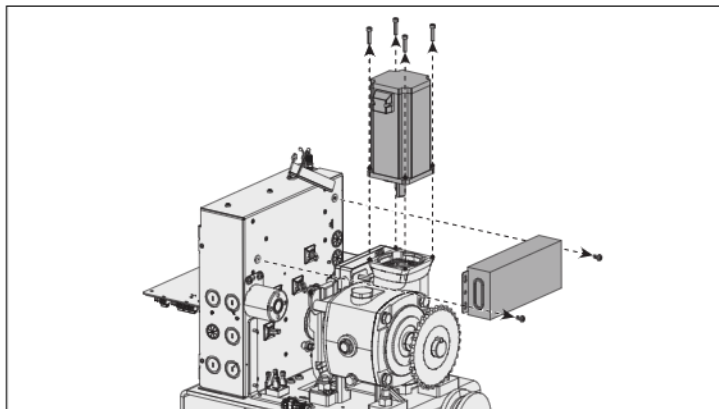

Fig. 3 - Removing the Motor and Motor Drive (Model HDSL24UL)
7. Remove the motor drive. See Fig. 3 (For HD slide Models) or Fig. 4 (For HD Swing Model)